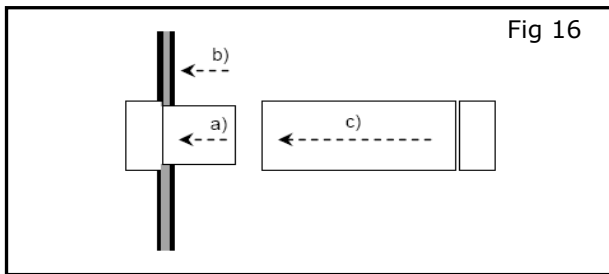

Fig 16
- 7) Tap Vehicle Wire, Shown in Fig 16